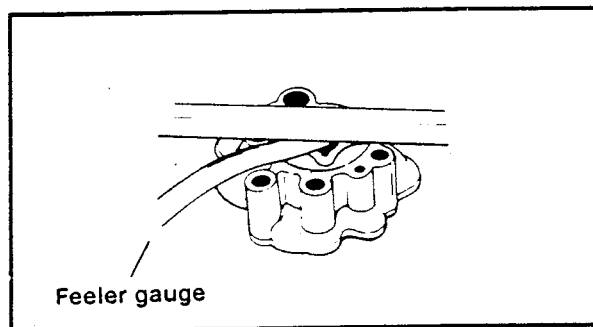

Figure 2-136. Oil Pump End Clearance
1. See Figure 2-136. Measure the oil pump end clearance.